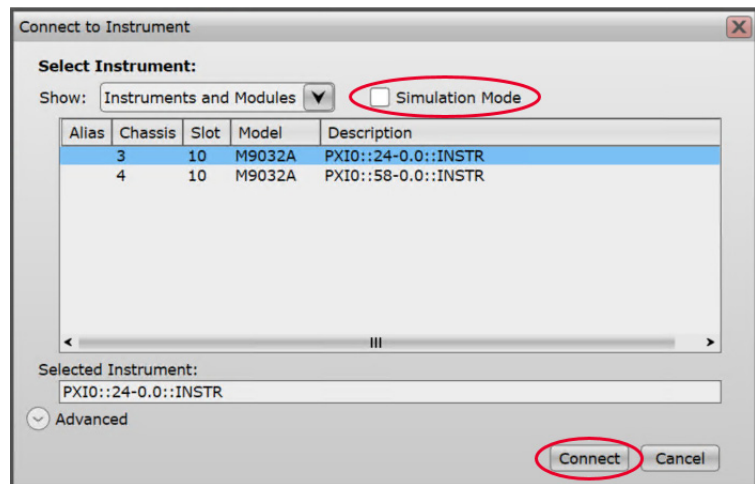

Figure 33 Connect to Instrument with "Simulation Mode" disabled
- 'Simulation mode' disabled—This is the active mode of SFP operation and is available when the **Simulation Mode** check box is clear. The **Simulate** button is replaced with the **Connect** button on the **Connect to Instrument** window, as shown in Figure 33. In this mode, only the active modules are displayed along with the respective chassis number, slot number and VISA address.